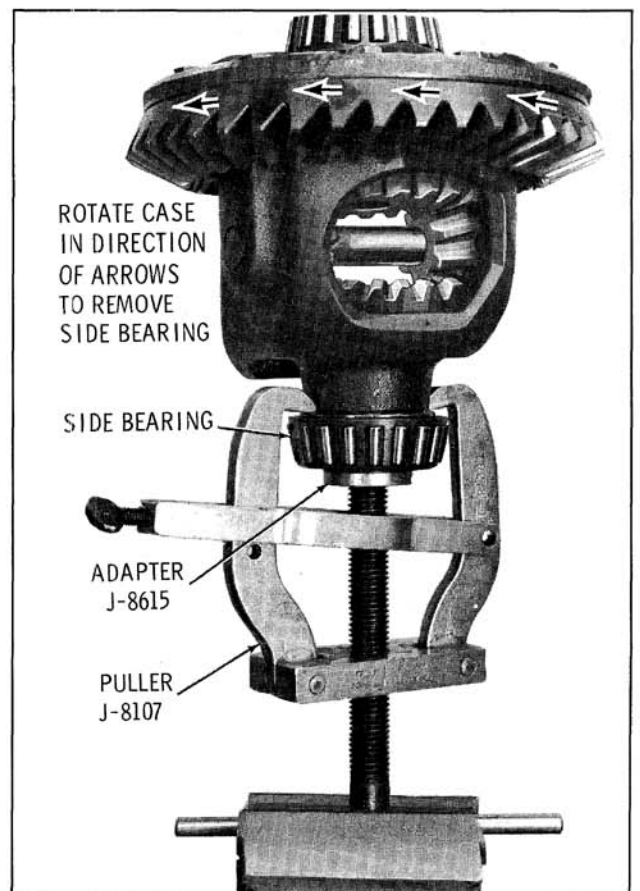

Fig. 10-17 Removing Side Bearing
1. If differential side bearings are to be replaced, they can be removed as shown in Fig. 10-17.